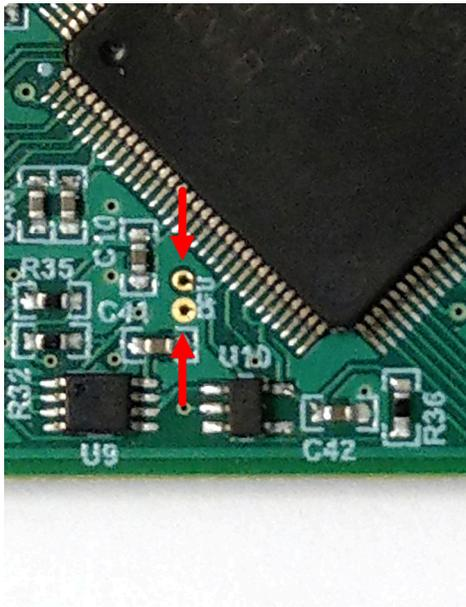

Figure 3-3. Test Points Used to Enter DFU Mode Manually
- Short the two test points near PK1 and PK2 of the header pins (see Figure 3-3) with a pair of tweezers (or wire) while pressing the RESET button.